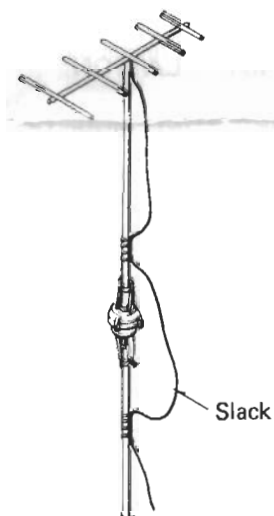

Figure 6
- 2. Fasten antenna cable to antenna pole or Tower by using adhesive tape or standoff. Rotator turns 360°: Keep enough slack so that the cable does not hinder the rotator from turning. (Figure 6)